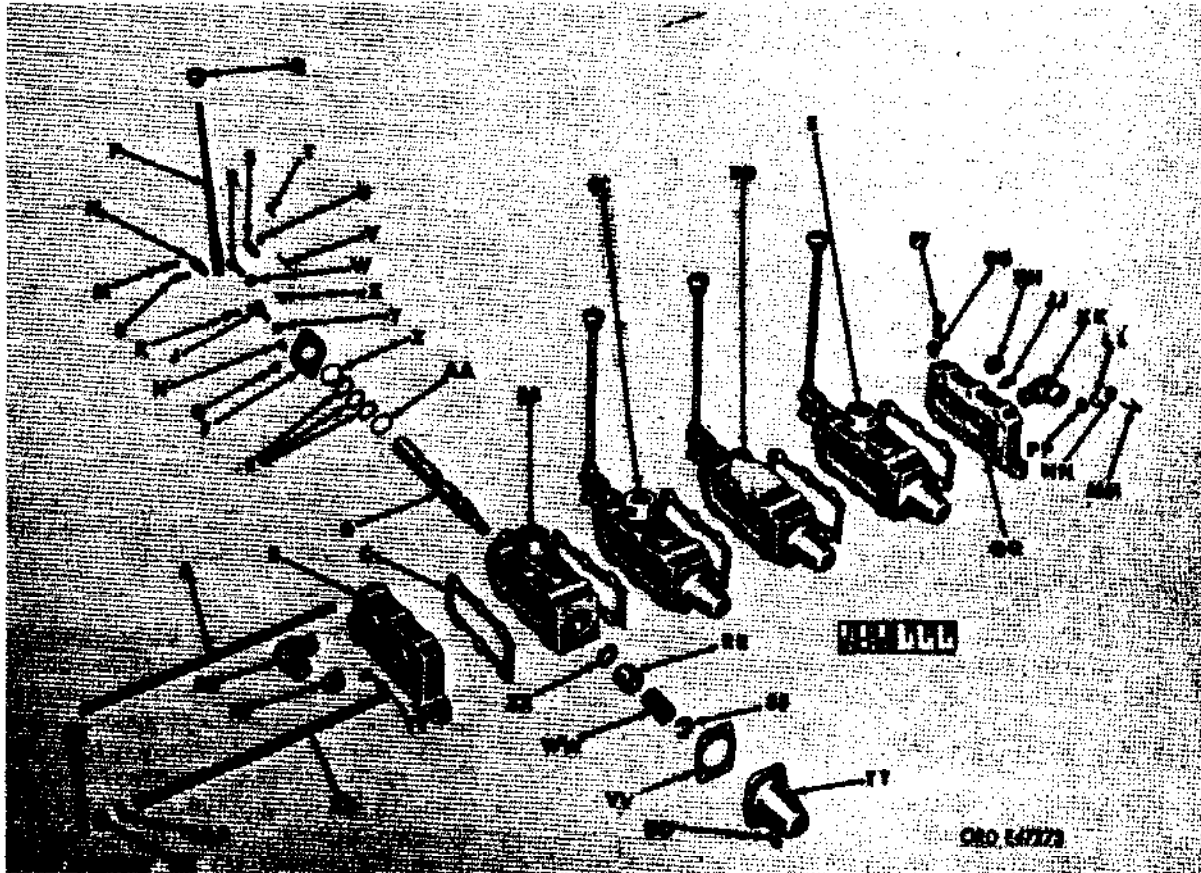

Figure 482. Control valve bank assembly - exploded view
c. Assembly (Fig. 482).
- (1) General. Before beginning the assembly control valve bank assembly, be sure that all parts are free of any grit.
- (2) Assemble hydraulic control valve.
- (c) Install control valve end cover (TT) and gasket (VV), and secure with four cap screws (UU).
- (3) Assemble control valve bank assembly (fig. 482). The assembling of the control valve bank assembly will require special attention so as to place control valves in the same position in the valve bank from which they were removed. When these units were originally assembled, precompressed gaskets were used. To accomplish this in the field, the following steps must be taken. Place control valve body gasket (C) between each control valve and the control valve bank end covers (B and QQ). Insert the five valve body tie rods (A) and one drilled valve body tie rod (ZZ) through the complete assembly, and secure tie rods at each end with 12 tie-rod washers (AB) and hex-nuts (AC and LL). Alternately tighten nuts on ends of tie rods so that control valve bank assembly will be drawn up evenly. Tighten two center rods to 85 pounds-feet of torque and 120 pounds-feet for the four end rods. Allow valve bank to set overnight and then check nuts to see if nuts are still at previous torque setting. Install five palnuts (AE and NN) to each end of tie rods and wire seals (AD and MM) to ends of drilled valve body tie rod (ZZ). If the two pipe plugs (HH and AF) were removed coat each with a hardening type sealing compound (Litharge or PermatexNo. 1) and install into valve bank end covers.